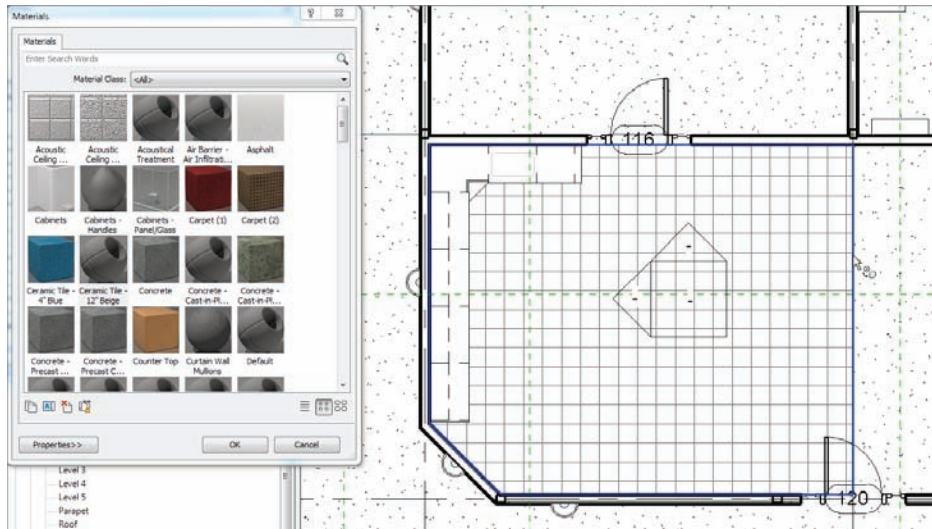

FIGURE 9.74 Selecting Clay Tile
2. Select Clay Tile - 12" Beige from the Material Class drop-down list, as shown in Figure 9.74.